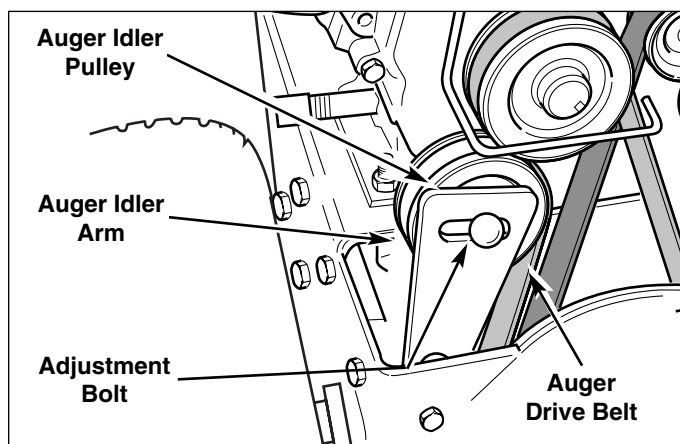

Figure 25. Auger Drive Belt, Guide and Pulley
6. Loosen the adjustment bolt (see Figure 25) and move the auger idler pulley.